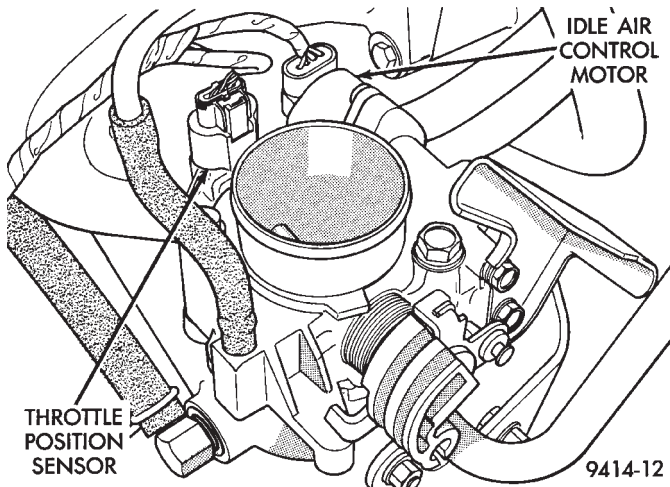

Fig. 21 Idle Air Control (IAC) Motor, Throttle Position Sensor (TPS) Wiring Connectors, and Vacuum Hose Connection.
(6) Remove accelerator and speed control cables from throttle lever and bracket. Refer to Group 14, Fuel System for procedures.
(7) Disconnect idle air control (IAC) motor and throttle position sensor (TPS) wiring connectors (Fig. 21).